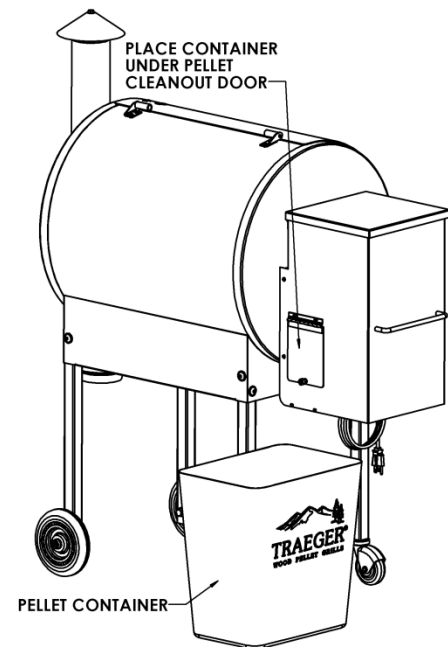

Figure 4-4
- 1) Place a container large enough to hold the discharged pellets (16lbs when full) under the hopper cleanout located on the back of the hopper. (see Figure 4-4)